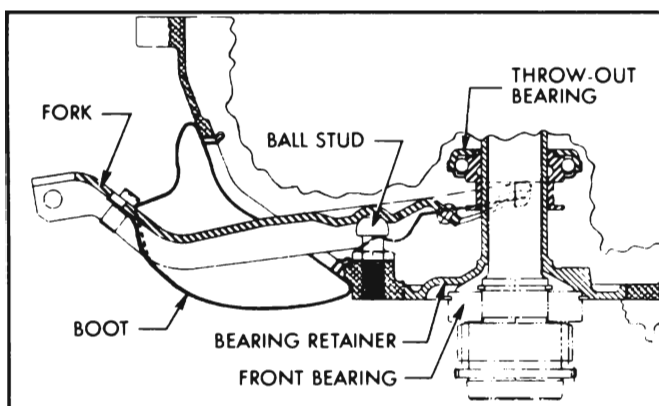

Figure 4-5—Clutch Release Fork and Boot
3. Disconnect release rod from release fork by removing clevis pin. Unhook fork boot from opening in flywheel housing. See Figure 4-5.